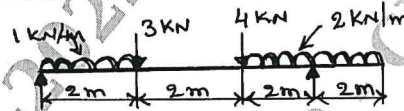

Fig.Q5(b)
b. Find the reactions at the fixed end and draw SFD and BMD for the beam shown in Fig.Q5(b). Locate point of contraflexure. (10 Marks)